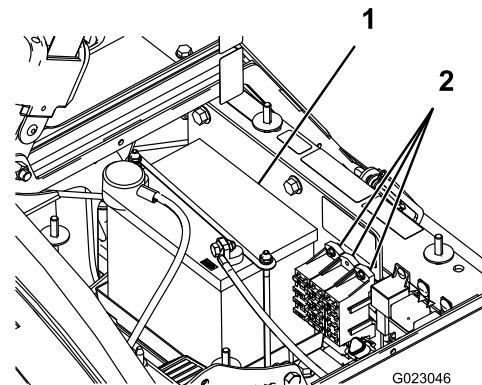

Figure 45
There are 2 fuse blocks and 1 empty slot in the electrical system. They are located beneath the seat (Figure 45).
2. The battery is located on the right side of the machine behind the pump (Figure 45).
5. Remove the battery retainer and fasteners (Figure 45).
2. Install the battery retainer and secure it with the fasteners you removed previously (Figure 45).
4. Install the battery cover and secure it with the 2 knobs (Figure 45).
1. Loosen the knobs on the sides of the battery box and remove the battery cover (Figure 45).